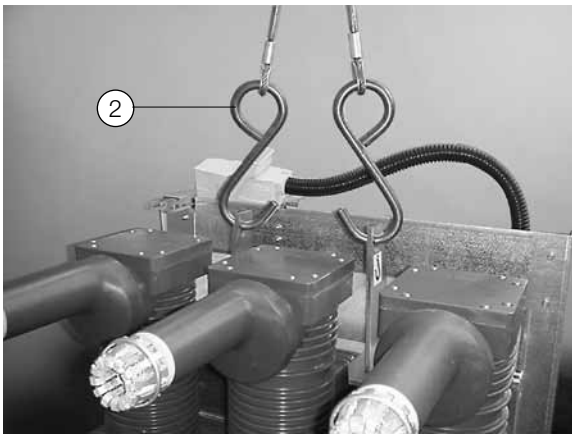

Fig. 2d
- Attach the hooks (2) as illustrated in fig. 2d and lift;
- On completion of the operation, remove the tools (1).